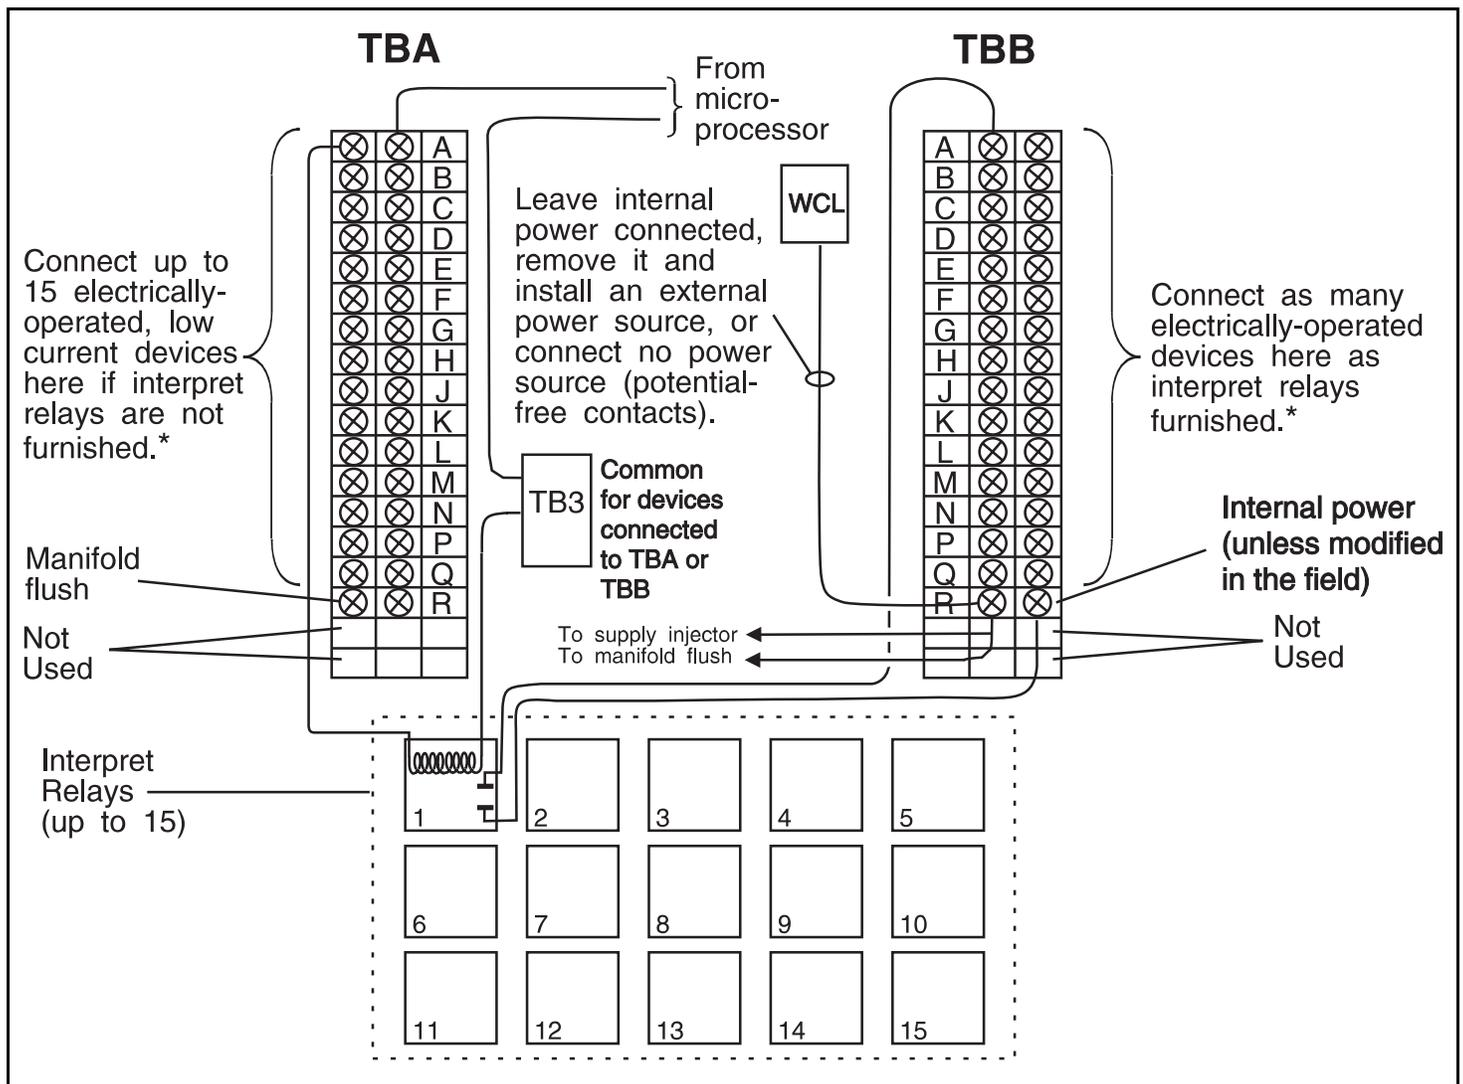

FIGURE 3 (MSSM0262BE)
3. Optional Interpret Relays—Interpret relay contacts have a higher current carrying capacity than inject signals. The interpret relay coils are wired to *TBA* (see FIGURE 3). One set of contacts on each relay is wired to terminal strip *TBB* and connected to an internal power source. This power source may be replaced by an external, *separately fused* source, or merely disconnected, to provide potential-free (“dry”) contacts. Use interpret relays to actuate electrically operated apparatuses (e.g., pumps, valves) or provide potential-free signals for other controllers.
Relays—Acquire all 15 chemical signals and a *manifold flush* signal at *TBA* (see FIGURE 3). *Terminals A through Q* on this terminal strip are *chemicals 1 through 15* respectively and *Terminal R* is the *flush*. Terminal *TB1* provides a multi-pin *common*. The specified voltage is enabled between the appropriate terminal of *TBA* and *common* whenever a chemical injection or flush is called for.
Using Internal Power—When interpret relays (up to 15) are furnished, chemical signals are available at *TBB* in the *interpret relay box*. *Terminals A through Q* are *chemicals 1 through 15* respectively. Terminal *TB1* provides a multi-pin *common*. The specified voltage is enabled between the appropriate terminal of *TBB* and *common* whenever a chemical injection is called for. As shown in FIGURE 3, *terminal R* of *TBB* is used to supply power internally to one contact on each interpret relay.
Using External Power or Potential-Free Contacts—As shown in FIGURE 3, *TBB*, terminal *R*, which receives power via *WCL*, not only supplies power to the interpret relay contacts but also to the pumped chemical inlet manifold flush valve and/or supply injector flush valves, if furnished. To disconnect the internal power source, remove all of the wires from the left side of terminal *R*, but maintain the connections between the removed wires. **Make certain that any external power source connected to terminal *R* is separately fused.**